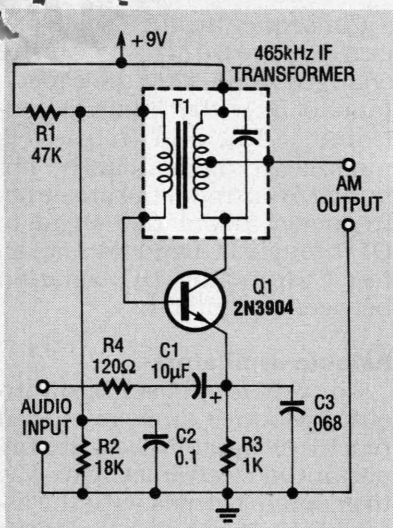
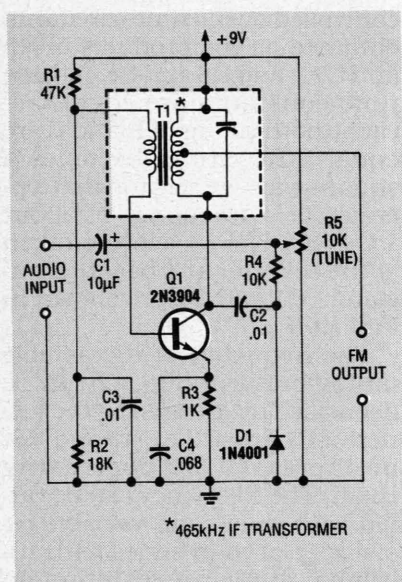

FIG. 10—BEAT-FREQUENCY oscillator that can amplitude modulate audio signals.
FIG. 11—BEAT-FREQUENCY oscillator with varactor tuning frequency modulates input signals.
The LC oscillator circuits shown in Figs. 5 to 9 can be modified to produce amplitude- or frequency-modulated (AM or FM) rather than continuous-wave (CW) output signals. Figure 10 is the schematic for a beat-frequency oscillator (BFO). It is based on the tuned-collector circuit of Fig. 5, but modified to become a 465-kHz amplitude-modulated (AM) BFO.
Figure 11 shows how the BFO circuit in Fig. 10 can be modified to become a frequency modulator. Tuning is adjusted by trimmer potentiometer R5. Silicon diode D1 functions as an inexpensive varactor diode. A 1N4001 diode frequency modulates the 465-kHz BFO circuit. Here, C2 and diode "capacitor" D1 are in series.